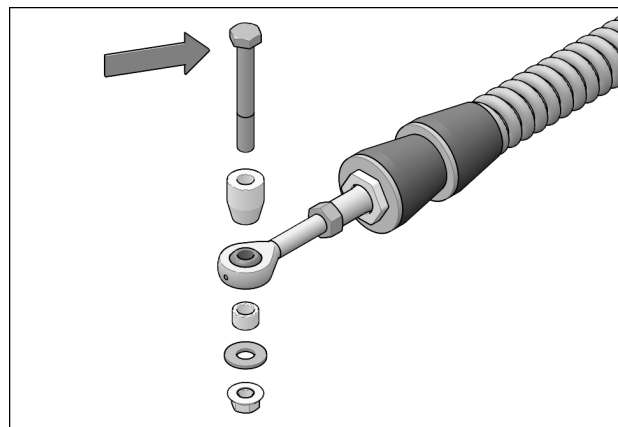

Fig. 3
- Remove M10x80mm bolt, washers and spacer bushings from rear stabilizing rod end. See Fig. 3